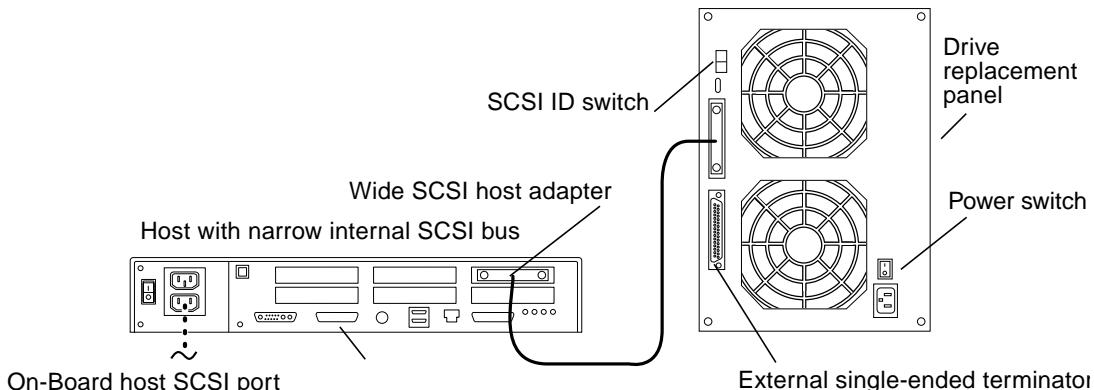

FIGURE 1-1 Sun StorEdge MultiPack unit with a SPARCstation 20—Rear View
- 2. Shut off the power to the Sun StorEdge MultiPack unit (FIGURE 1-1).**
- 3. Disconnect the SCSI cable and the power cord from the Sun StorEdge MultiPack enclosure (FIGURE 1-1).**